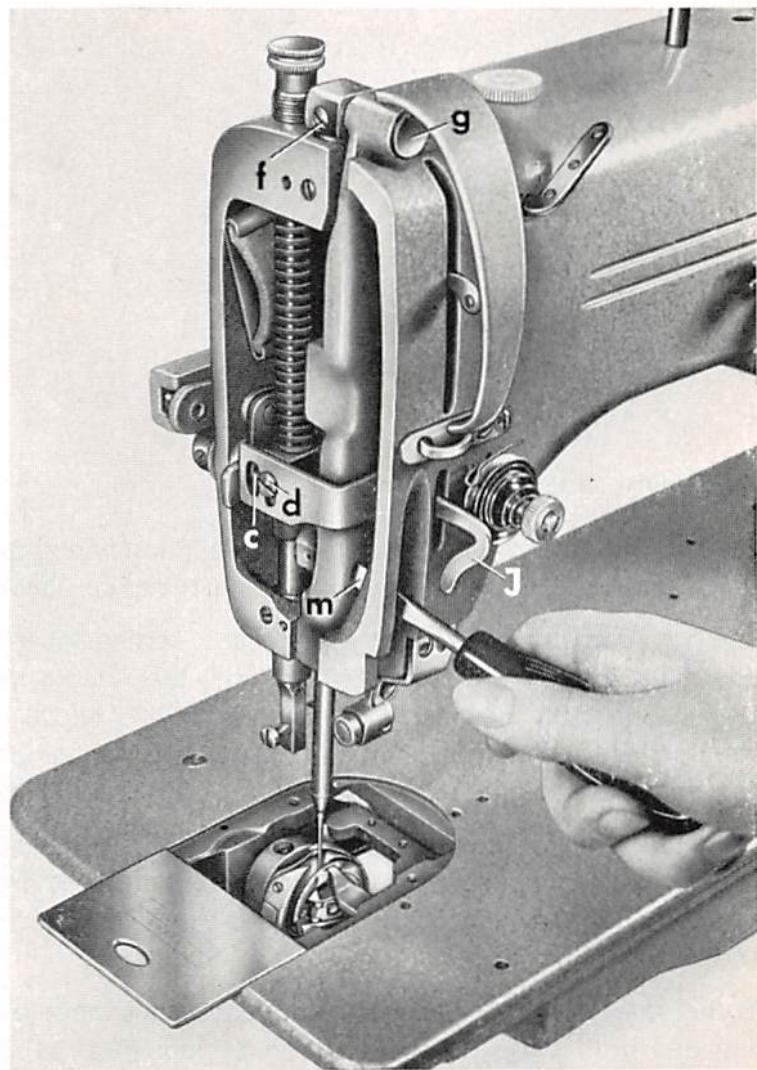

Fig. 28
Thread regulator J (Fig. 28) is mounted on the presser bar guide collar and moves up and down with the presser bar as the sewing foot passes over irregularities in thickness. By so doing, it adapts the thread consumption to the varying thicknesses of the material being sewn. As a result of this action, the check spring has to take up less thread when thicker portions of the material pass under the sewing foot.
Thread regulator J can be adjusted vertically after loosening screw d (Fig. 28). By setting the thread regulator higher or lower the amount of thread to be controlled by the thread check spring can be adjusted within certain limits. It is recommended to correlate the thread regulator and tension barrel settings so that the thread check spring not only takes up the proper amount of thread, but also pulls the thread upwards perpendicularly.
If adjustment is required, loosen set screw **m** (Fig. 28) and set the needle bar higher or lower, as may be required.
2. Take out pressure regulating screw and remove presser bar spring. Loosen set screw **c** (Fig. 28) and pull the presser bar up out of the machine.
Pull thread regulator **J** (Fig. 28), presser bar guide collar and presser bar lifting bracket back out of the machine.
3. Remove complete needle bar frame assembly so that the height setting of the needle bar will not be disturbed. To do this, loosen set screw **b** (Fig. 36) and remove eccentric stud **a**. Then loosen screw **f** (Fig. 28) and pull out hinge stud **g**. This done, pull the needle bar frame, enclosing the needle bar, forward out of the machine.